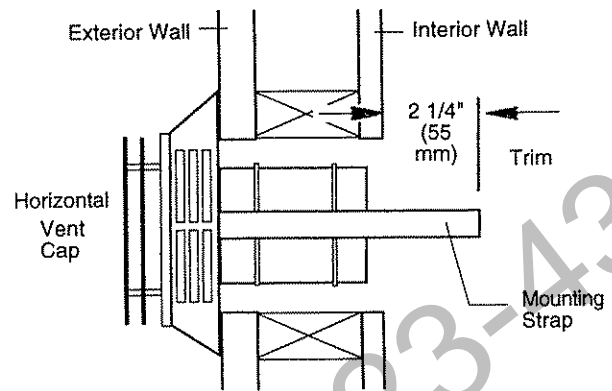

Figure 27. Trim the mounting straps.
- 2. Trim the Straps.** Install the Vinyl Siding Stand-off if applicable. Position the Horizontal Vent Cap within the opening on the outside wall and temporarily secure it in place with one of the wood screws provided. Mark and trim each of the mounting straps to extend no more than 2 1/4" (55mm) beyond the interior wall. See Fig.27. Remove the Vent Cap from the outside wall.